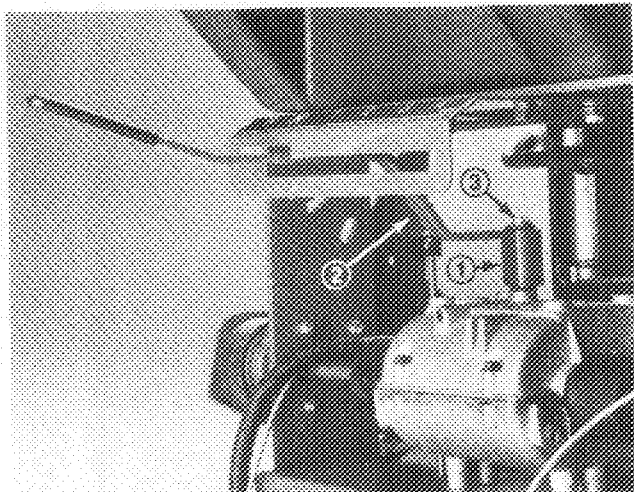

Figure 3
2. Insert shift lever thru slot in control panel and align mounting hole in lever with mounting block on transmission. Secure lever to transmission with 1/4-28 x 2" lg. capscrow and plain washer. Torque capscrow to 100-125 in - lb (Fig. 3).